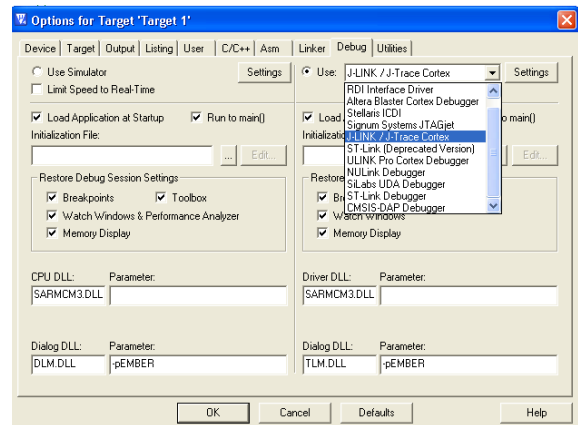
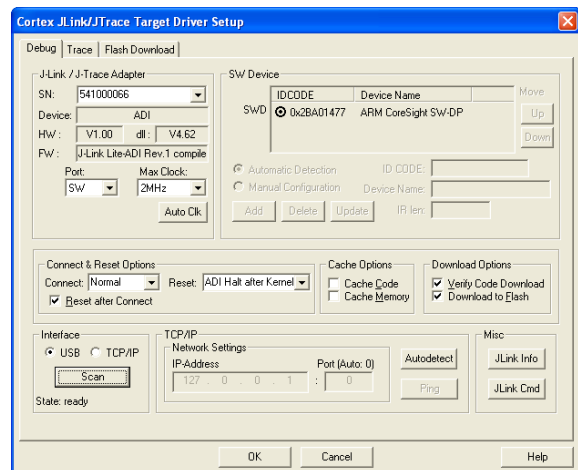

Figure 22. Choose a Debugger
Figure 23. Target Driver Setup
4. Select **Settings** in Figure 22 and then configure as shown in Figure 23.